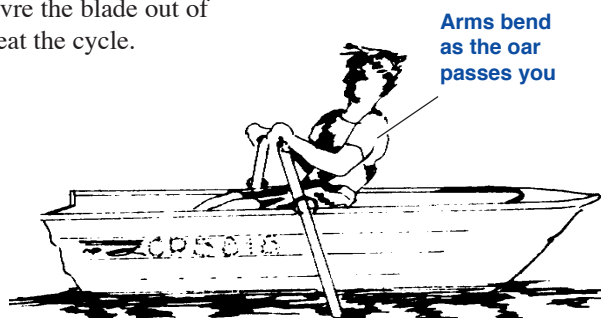

Figure 48.1 Rowing techniques
1. Read the text and study the illustrations 1 – 4, in Figure 48.1.
2. Now board your dinghy, fix the oars as shown in Figure 48.1, face the stern of the boat and practice rowing.